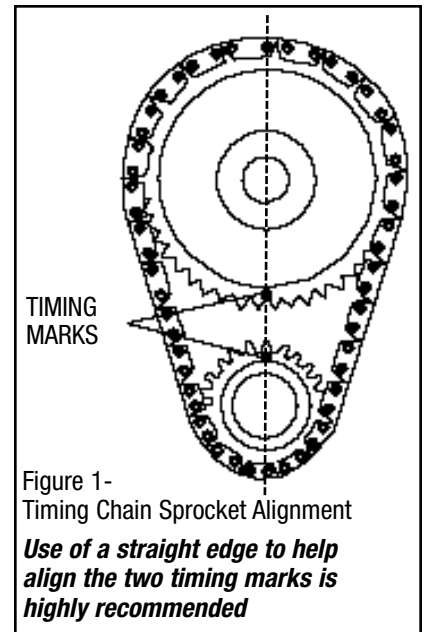

Figure 1-
13. Rotate engine until timing marks are aligned as shown in Figure 1.
Do not use late model timing chain & gear sets that are designed in a retarded position and are not recommended for this camshaft installation. Edelbrock Timing Sets feature three keyways for specific timing selection. Use locking compound material on the bolt threads holding timing gear to cam. Torque to factory recommendations specified in motor repair manual. Install camshaft with timing marks lined up as recommended by factory specifications. **See Figure 1.**
After the cam is installed and timed correctly (see Figure 1), it will be necessary to check each pushrod for correct lifter pre-load.